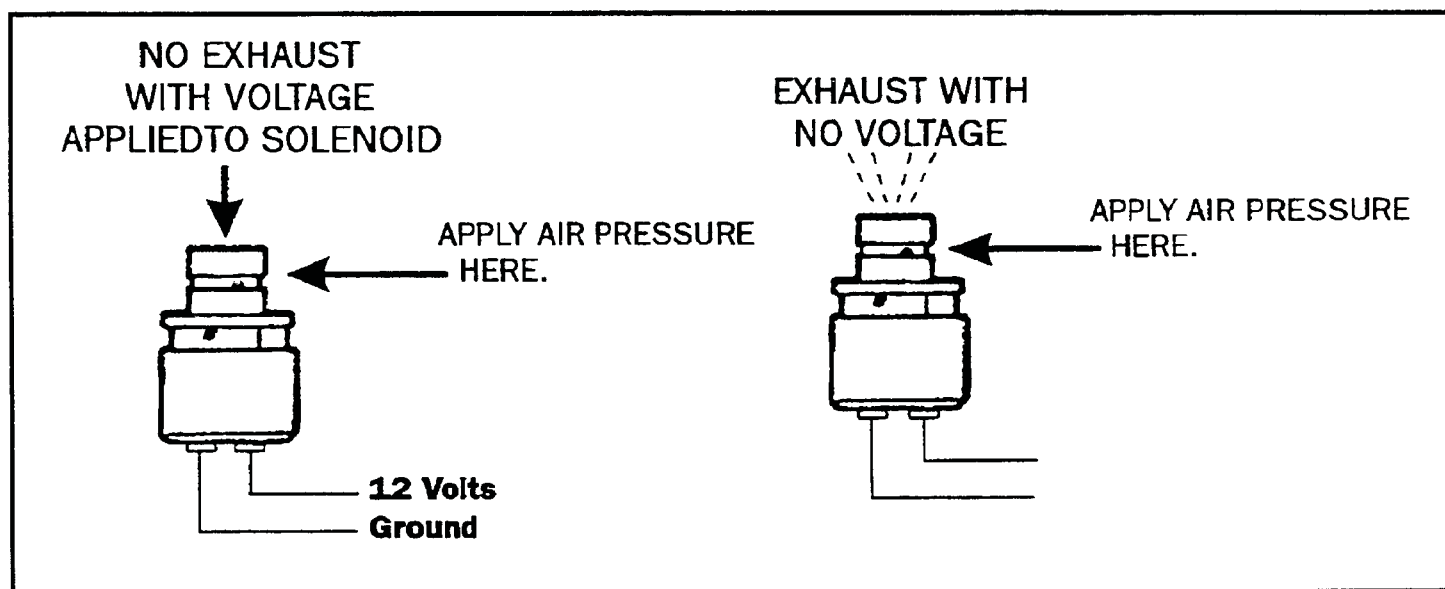

Figure 78
- (1) The proper air test procedure is shown in Figure 78. You must use no more than 70psi. when checking the lock-up solenoid or else the results will not be valid. Ohms check the solenoid across the two terminals. There should be 25 - 40 ohms of resistance across both terminals but no continuity to the solenoid body.